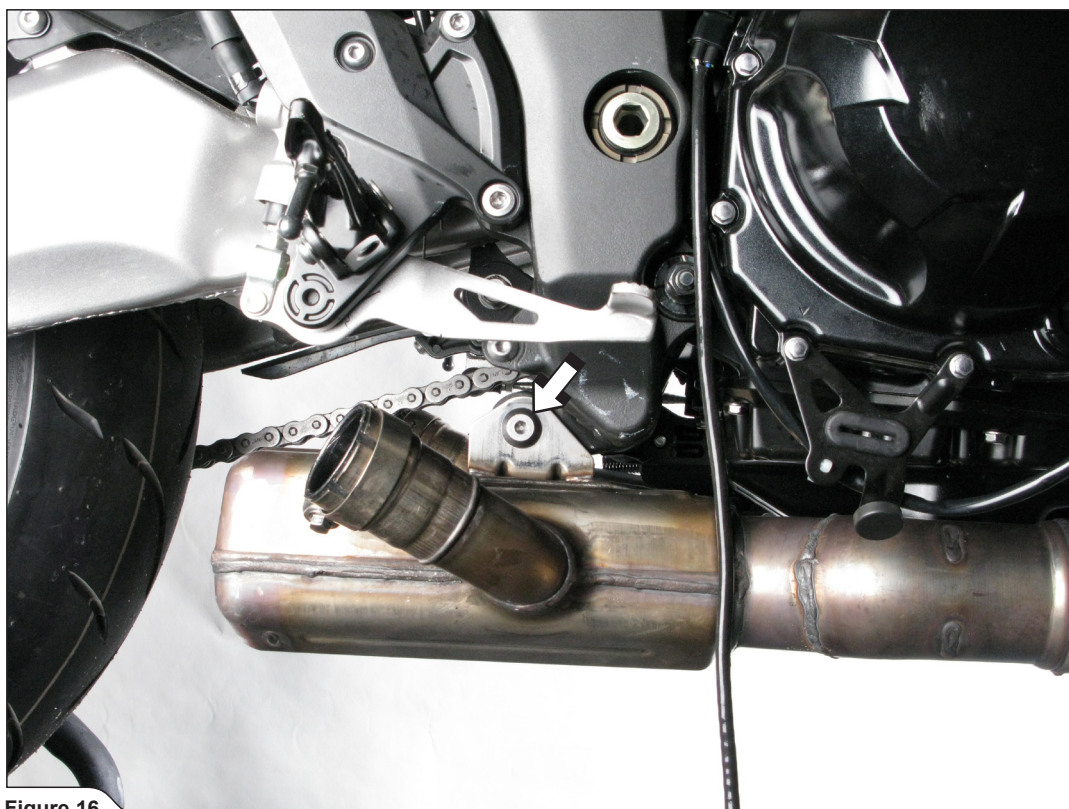

Figure 16
11. Unscrew the marked collector bracket bolt and remove the stock exhaust system off the motorcycle (Figure 16).